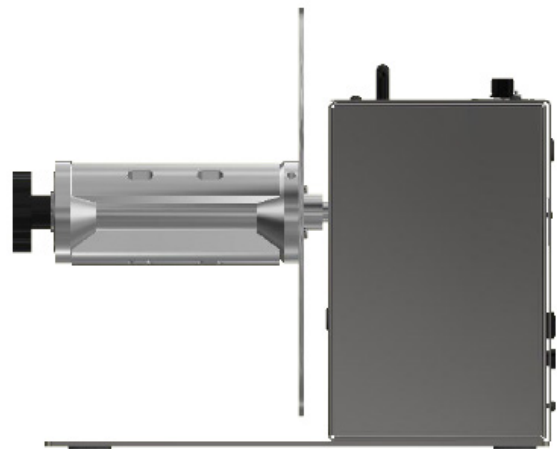

FIG. 2
- The CAT-3-CHUCK (FIG.2) includes a quick-locking "Quick-Chuck" core chuck permitting the fastest loading and unloading of cores and label rolls
- CHUCK (FIG.2): Mount the inner Flange onto the Quick-Chuck with two screws provided.